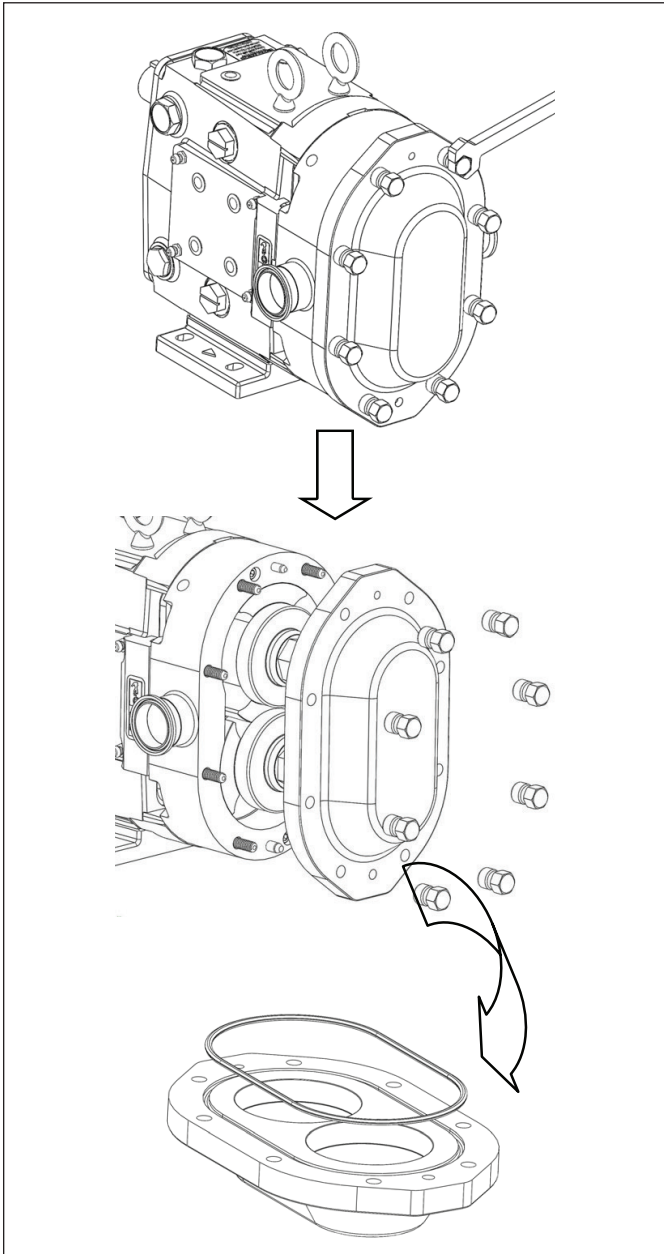

Figure 23. Removing ZP3 Cover
1. Start by removing the cover nuts using an appropriate wrench (*Figure 23*). During disassembly place all parts on a clean, protected surface with finished surfaces and seal faces facing up. Tap the cover off using a soft mallet. Remove the cover o-ring and inspect.